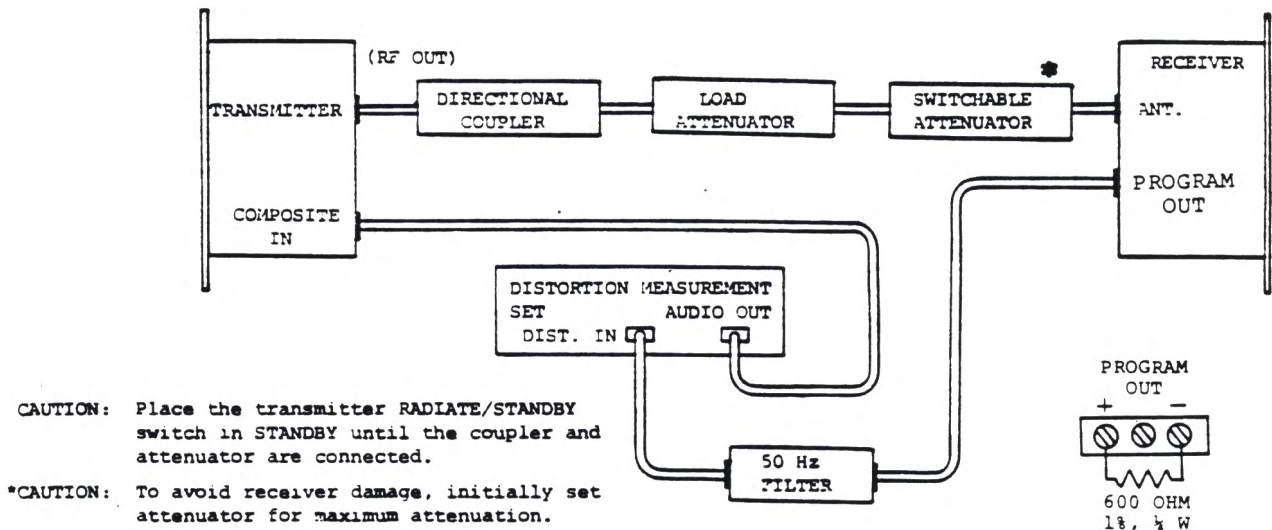

Figure 6-8. STL distortion alignment
1. Connect the equipment as shown in Figure 6-8, and adjust the controls on the distortion measurement set as follows: